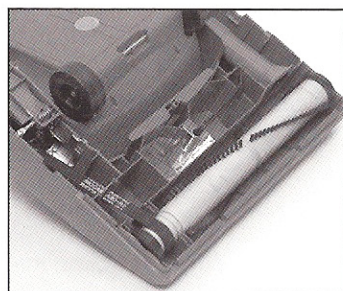

Fig. 25
3. Turn unit over and remove bottom plate (See "Removing and re-installing bottom plate"). Check nozzle inlet tube for obstructions [Fig. 25]. Clear tube and re-install bottom plate.